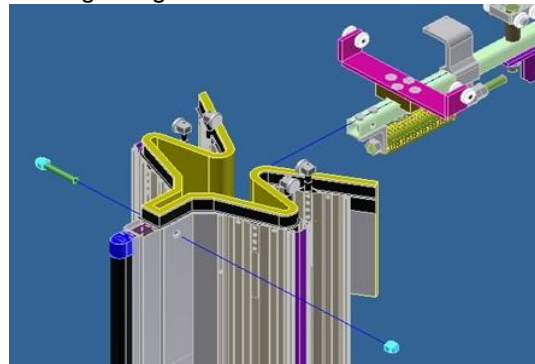

Figure 6.5. Attaching Lead Post to Chain Adjustment Trolley
Locate the all-thread and (2) acorn nuts provided by Cookson. Position the Lead Post under the Load Section so that the vertical square tubing inside the lead post is butted up against the horizontal square tubing of the stabilizer bar trolley. It may be helpful to place the lead post section on a hand truck to alleviate the task of moving and lifting the lead post into position. Align the pre-drilled holes located near the mouth of the lead post with the pre-drilled holes in the square tubing of the stabilizer bar trolley. Fasten the lead post to the stabilizer bar trolley using the all-thread and acorn nuts. See **Figure 6.5**. The all-thread is not designed to support the lead post itself for any extended period of time, so the remainder of this step should be completed immediately. The rollers attached to the slats on the lead post section must be inserted into the installed track before the trolley rollers. Confirm that the hinge pattern and roller positioning of the slats attached to the lead post are consistent with the other door sections. Lift the lead post section as needed and slide the rollers into the track. This may require some adjustment since both sides of rollers must be installed simultaneously. It may be necessary to slide the trolley toward the installed track sections in order to load the rollers. Once all (4) of the slat rollers are in place within the track, slide the lead post section into the installed track and clear from the load section.